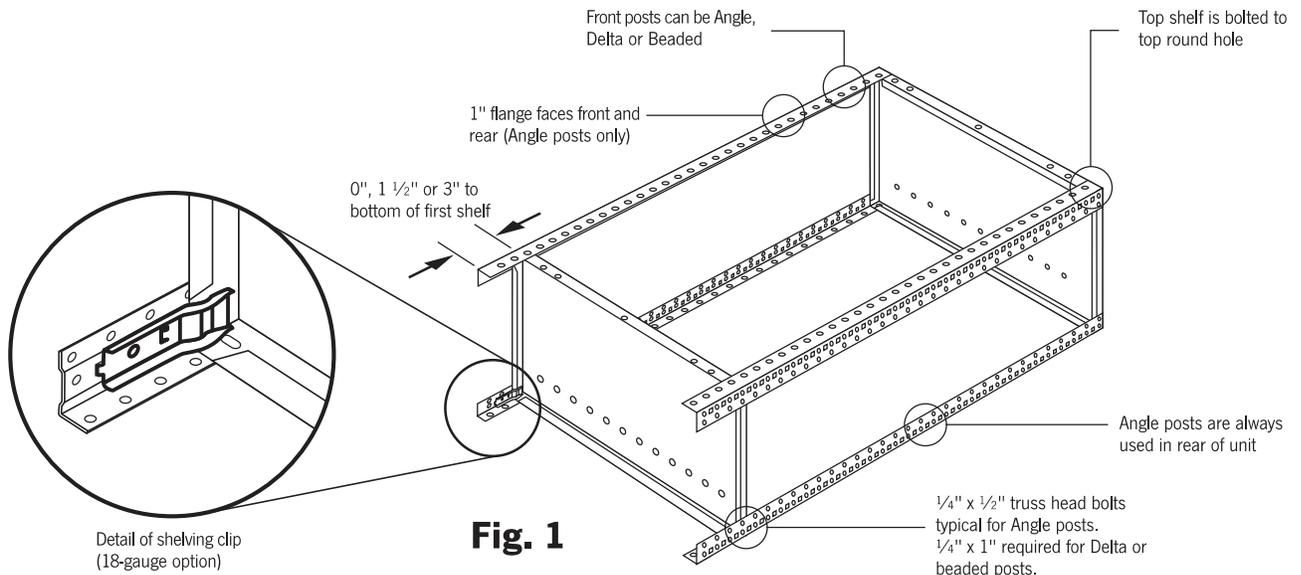

Fig. 1
- 1 Lay two Angle posts on floor or saw horses with 1" flange down. Bolt the top shelf to the sides of the posts in the top round hole (**Fig. 1**). Bolt the bottom shelf the same way using the third hole from the bottom of the post, or location where the bottom shelf will be required (3" max. from floor). Place right and left Angle, Beaded or Delta posts at front post locations as shown in (**Fig. 1**), then bolt from the sides. For 18-gauge shelves and non-seismic applications, clips may be used instead of bolts on top and bottom shelves. With top and bottom shelves bolted or clipped securely, stand the unit upright.
- 5 Additional shelving units may be added to form a row by placing the side sway brace between 2 Angle posts, then proceeding to attach the adder unit(s) to the starter unit. If the bottom shelf must be less than 3" from floor to the bottom of shelf, then the top and bottom shelves should be attached while shelving unit is on its back (**Fig. 1**). For Beaded or Delta post adder units with the bottom shelf less than 3" from the floor, the top and bottom shelves must be attached (bolted) to the entire row before standing units upright.